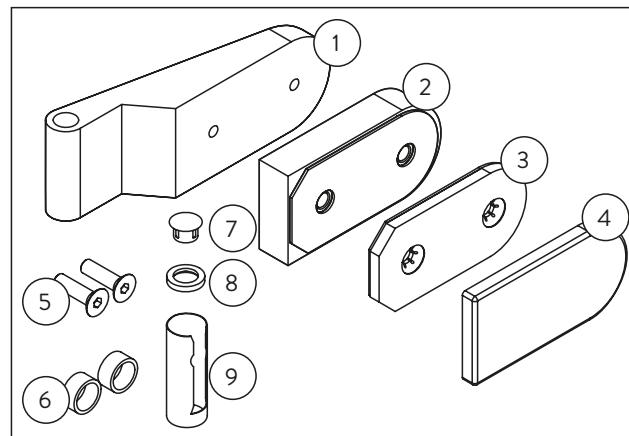

Abb. 14 Parts included
- 2 x panel section (Fig. 14/1)
- 2 x lining section (Fig. 14/2)
- 2 x counter-plate (Fig. 14/3)
- 2 x end cap (Fig. 14/4)
- 4 x countersunk screw (Fig. 14/5)
- 4 x tube section (Fig. 14/6)
- 2 x cap (Fig. 14/7)
- 2 x bearing plate (Fig. 14/8)
- 2 x sleeve for frame pivot (Fig. 14/9)